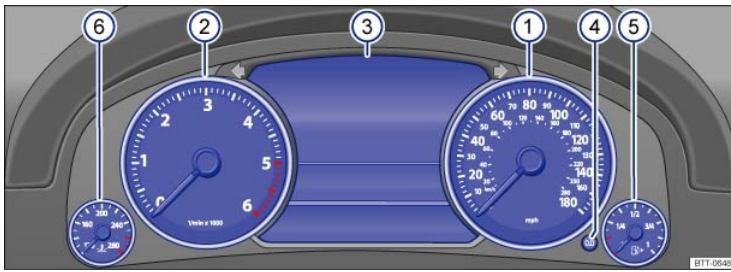

Fig. 11 Instrument cluster in the instrument panel.
Instrument explanations to ⇒ Fig. 11 :
Depending on the vehicle model, different information may be shown in the instrument cluster display ⇒ Fig. 11 ③.
The service appointment reminder is shown in the instrument cluster display ⇒ Fig. 11 . For more information, please See ⇒ Booklet Warranty and Maintenance,